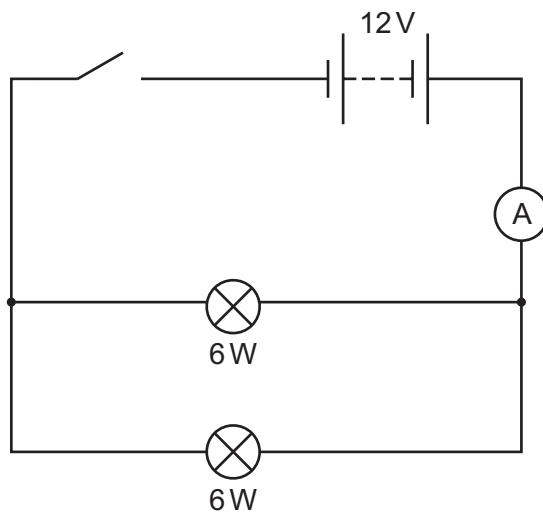

Fig. 1
- 1 (a) Fig. 1 shows a lighting circuit.
- (i) Draw on Fig. 1 the symbol for a voltmeter, in the correct position to measure the potential difference across the switch. [2]
- (iii) State the type of circuit arrangement for the lamps in Fig. 1.
- (iv) Draw an arrow on Fig. 1 to show the direction of travel for the current flow. [1]